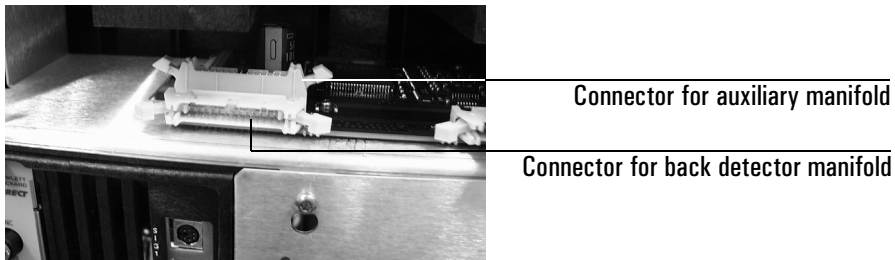

Figure 9 Auxiliary and back detector connectors
7. Connect the ribbon cable to the mating connector on the pneumatics board. This is behind the connector for the back detector and faces up. See Figure 9.